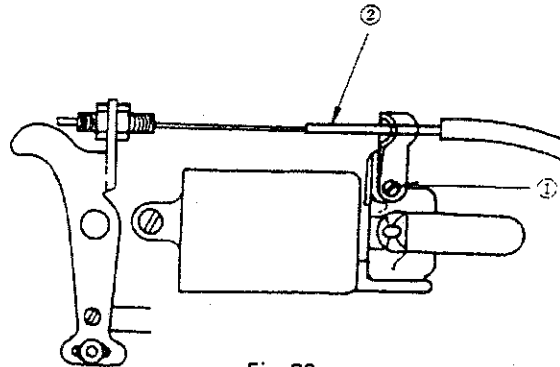

Fig. 29
- ① To increase the floating amount, loosen screw ① (Fig. 29), and move tension release wire ② to the right.
- ② To decrease the floating amount, loosen screw ①, and move tension release wire ② to the left. After adjustment, securely tighten screw ①.